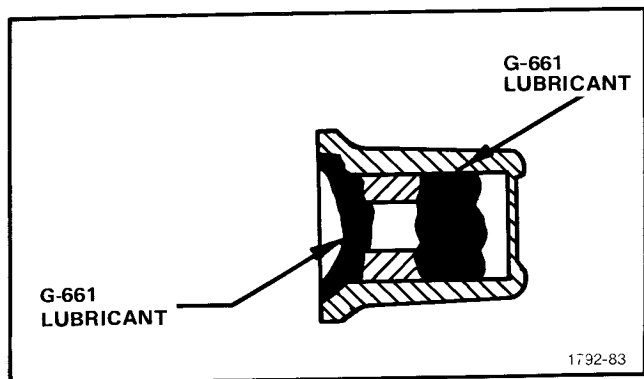

Fig. 5-30. Lubrication of POSITION control knob.
27. Installation of the POSITION knob and the FINE POSITION knob (see Figs. 5-30 and 5-31)
- 1. Apply G-661 lubricant to the POSITION knob as shown in Fig. 5-30.